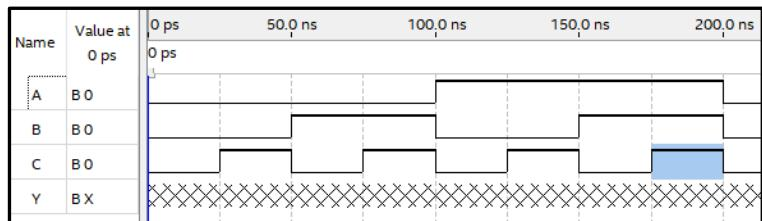

Figure 9: VWF with manual inputs
1. Use the magnifying glass to zoom in on the waveform window until you can see 50 ns intervals as seen in the image of Figure 9.
2. Using your mouse (make sure the pointer is selected), click and drag your mouse cursor across 100 ns to 200 ns on input A to select the area. Now select the “1” button on the toolbar (or select “Edit”, “Value”, “Forcing High (1)”) to set this signal to High during this time window.
4. Manually manipulate your signals to match the image in Figure 9. Save this simulation design.